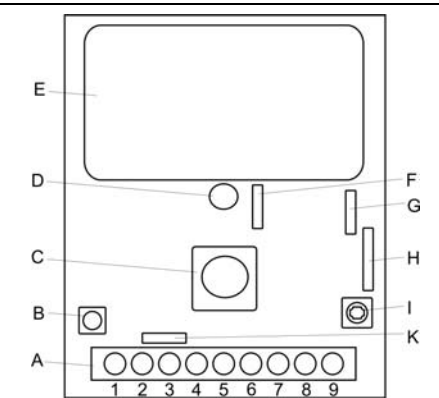

Fig. 1
8. Attach the wires to the connection terminal (Fig. 1).